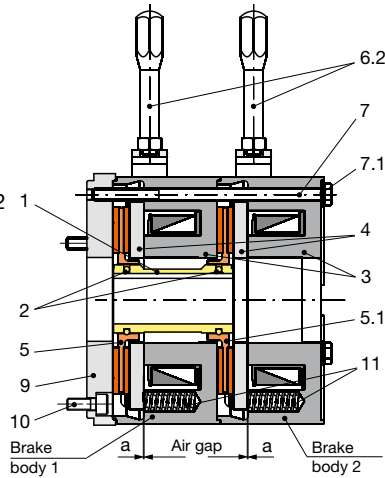

Fig 1: Type 8020.0_303
Installation – Short Description (Fig. 1)
2. If necessary, mount the flange plate (9) onto the mounting surface using cap screws (10) (Please observe the tightening torque according to Table 1).
4. Push rotor 1 (5) by hand using light pressure over both O-rings (2) onto the hub (1) (the rotor collar should face away from the machine wall or flange plate).
5. Push brake body 1 over hub (1) and rotor collar of rotor 1 (5) (the fixing holes should align with the threaded holes in the flange plate (9) or machine wall).
6. Push rotor 2 (5.1) by hand using light pressure over an O-ring (2) onto the hub (1), so that the friction lining of rotor 2 (5.1) lies against the brake body 1 (the rotor collar should be facing the machine wall or the flange plate).
7. Insert the hexagon head screws (7) into the bores in brake body 2 and then join with brake body 1 (see Fig. 1) and screw onto the machine wall or flange plate. Tighten the hexagon head screws (7) evenly all around using a torque wrench to a tightening torque acc. Table 1.